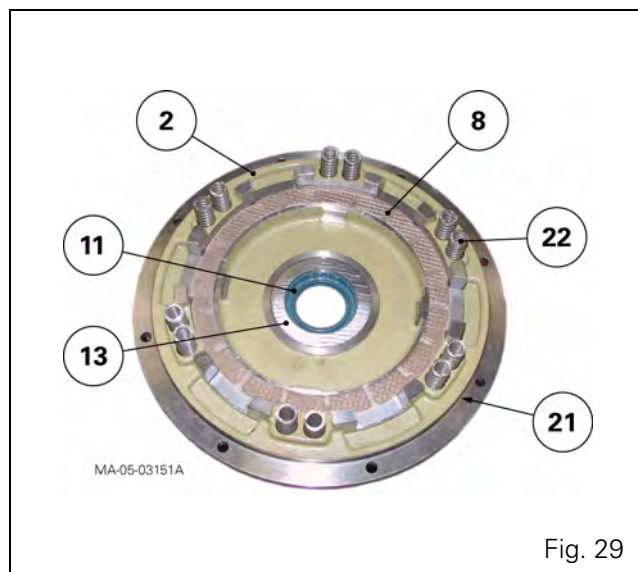

Fig. 29
50. Fit a new oiled "O" ring (4) on the Powershift module cover (2) (Fig. 29).
51. In the cover (2), fit a new lip seal (11) smeared with grease on the inside and oiled on the outside (Fig. 29).
52. Fit the springs (22) in the housings. Fit a disc (8) on the cover (2) (Fig. 29).
53. Fit the friction washer (13), with the grease removed and smeared with Loctite 648 or equivalent (Fig. 29).